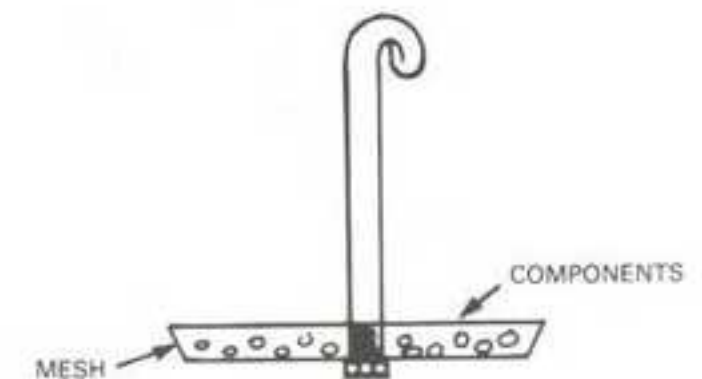

Fig. 12 Stainless steel basket for small components.
- (5) This is the cathode, or component to be electroplated. It can either be wired on with copper wire or aluminium wire for plating or anodising. The component can be jigged or hooked. A useful method for small components is to pre-clean and spread them out on a piece of stainless steel mesh shaped like a basket, with a wire or hook through the middle (Fig. 12). After spreading them over the surface of the mesh, the basket is immersed in the electrolyte suspended by the hook from the cathode bar. Shake the basket at various times to move the components. This will prevent areas being unplated.